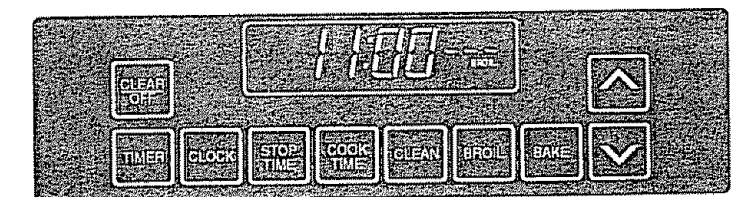

Fig. 5
1. Press **BROIL**. "Broil" will flash and (- - -) will appear in display. See Fig. 5.